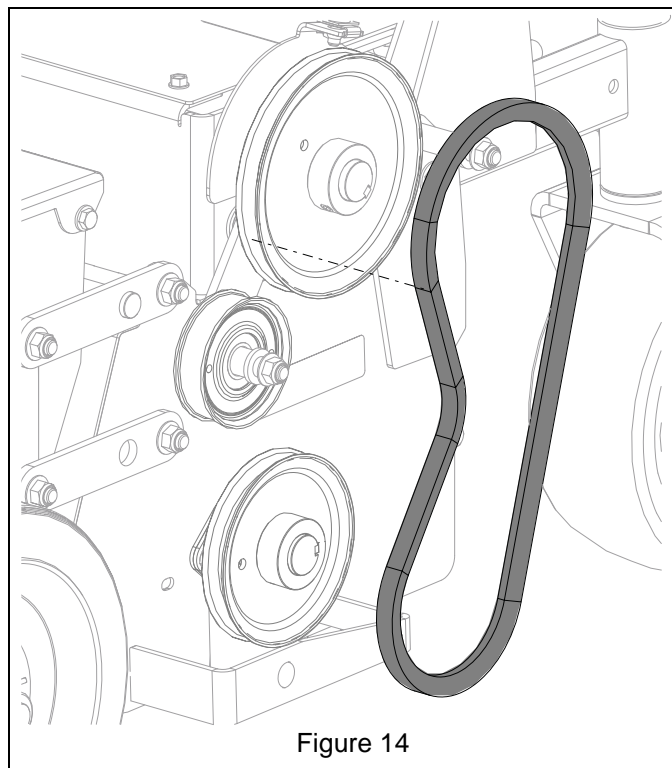

Figure 14
6. Install belt. See Figure 14.